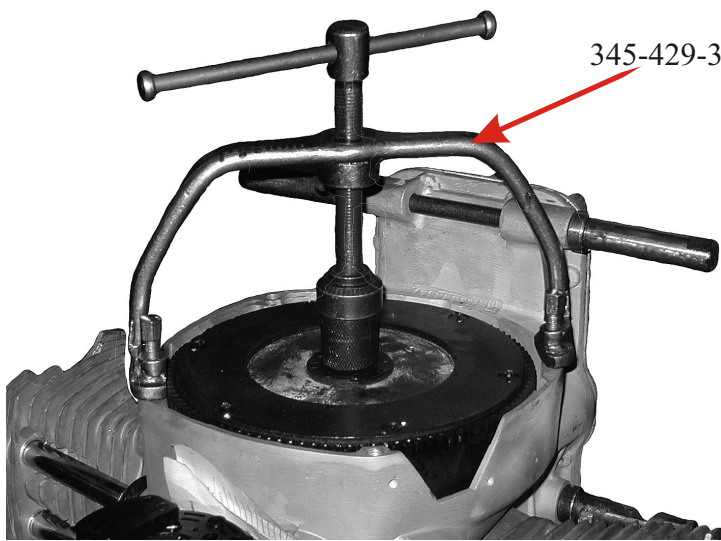

Fig. 12
- Fit tool 345-429-3 on studs and lock with nuts, insert its mandrel into the splined hole of the hubs of the clutch driven plates and by driving in the screw of the tool, apply the clutch (Fig. 12)
- Fit the tool 345-429-3 and by driving in the screw of the tool compress the springs (Fig. 12);